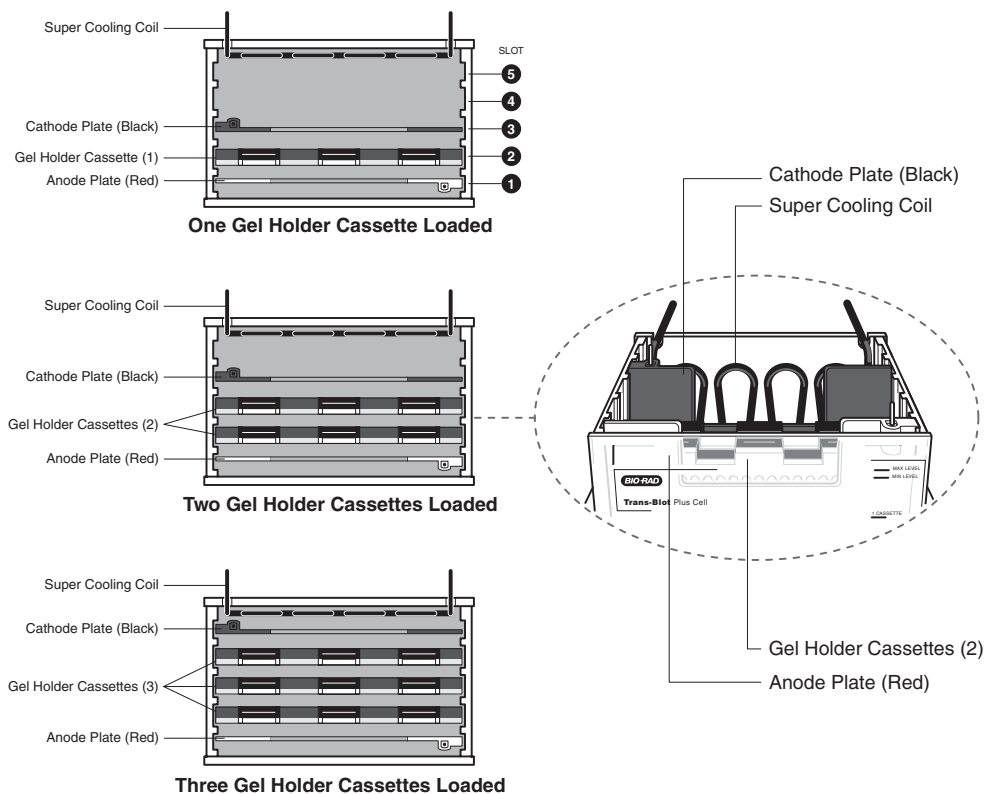

Fig. 2.
3. Position the cathode (black) electrode card into the third, fourth or fifth slot from the front (4 cm, 7 cm, or 10 cm away from the anode card), depending on whether you will be transferring one, two, or three gel-containing cassettes, respectively (see Figure 2). Tighten the electrode card in place with the white nylon screw.